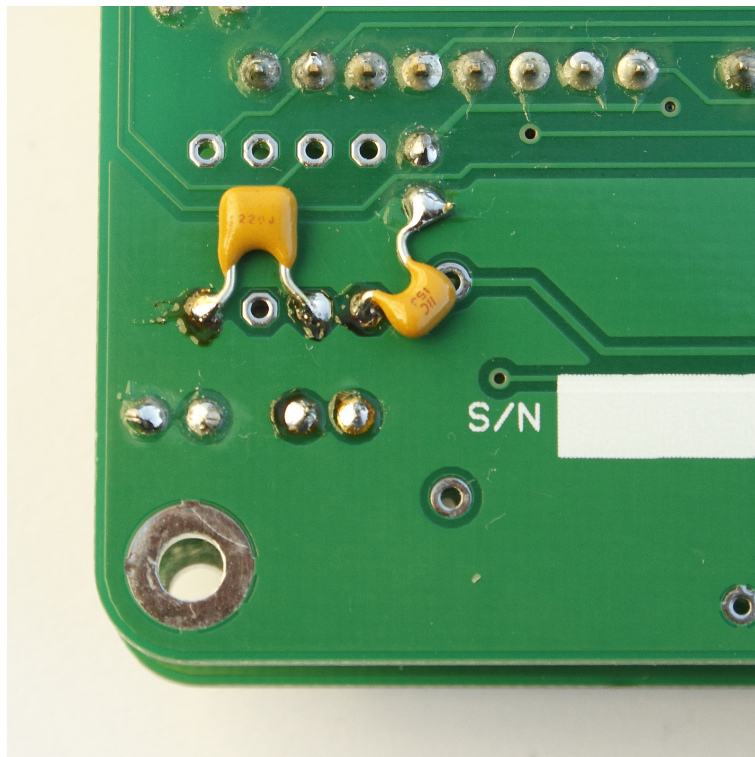

Figure 4.3: Real-time clock load capacitors (Calunium v 2.0).
22. C17, C18 (15 pF). Do not fit if using DS1338-33 RTC. For Calunium version 2.0 the capacitors must be fitted on the reverse side of the board (see Figure 4.3 as no specific mounting holes exist (error caused by using an earlier, incorrect datasheet which did not show the load capacitors).
26. Battery (CR2032). Check that the battery backup pin (3) on the RTC measures 3.0 V.